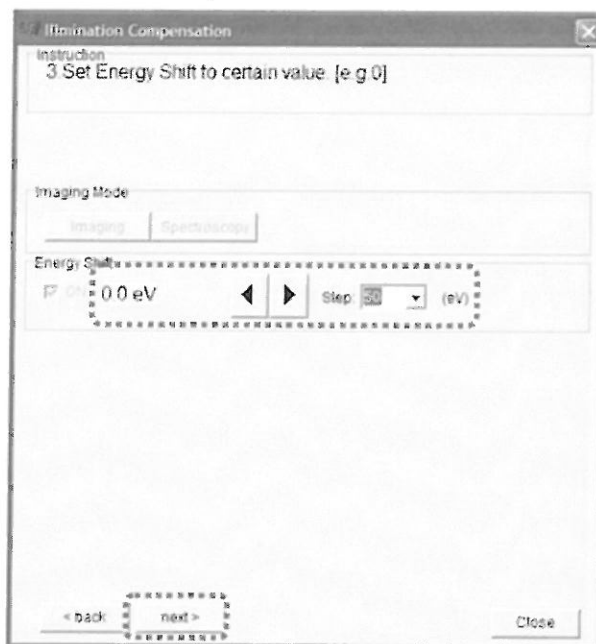

Fig. 5.51 Illumination Compensation - 3. Set Energy Shift to certain value. [e.g. 0]
3. Follow "Instruction – 3. Set Energy Shift to certain value [e.g. 0]", use the "◀" "▶" buttons to adjust the Energy Shift to 0eV (Fig. 5.51). Select the setting of the movement amount from the combo box. When the adjustment is completed, press the **next** button to proceed.